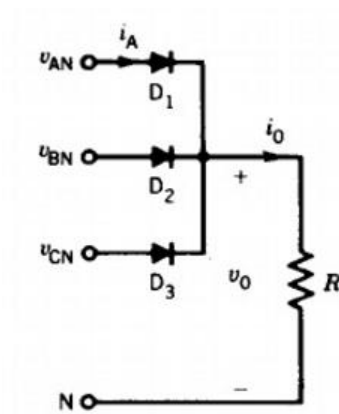
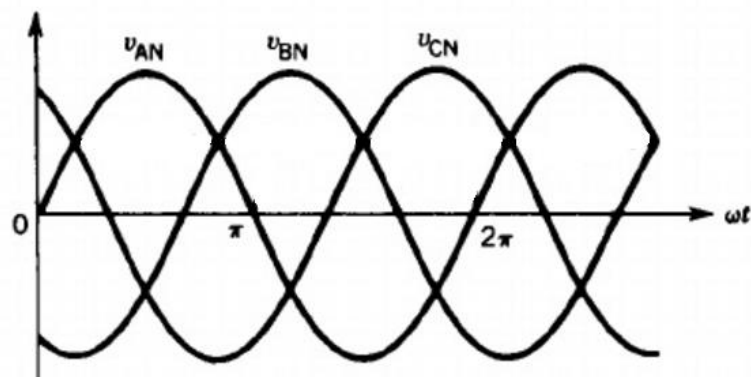

Fig. 2
Fig. 3
Fig. 2 shows an uncontrolled rectifier connected to a three-phase voltage source. The phase voltages are $v_{AN}(t)$, $v_{BN}(t)$ and $v_{CN}(t)$ respectively. The waveform of the three-phase voltage source connected to the uncontrolled rectifier is shown in **Fig. 3**
- 1.2. Draw the output waveform $v_o(t)$ and phase C current $i_c(t)$ on the same graph by using **Fig.3** as the reference waveform. [2]